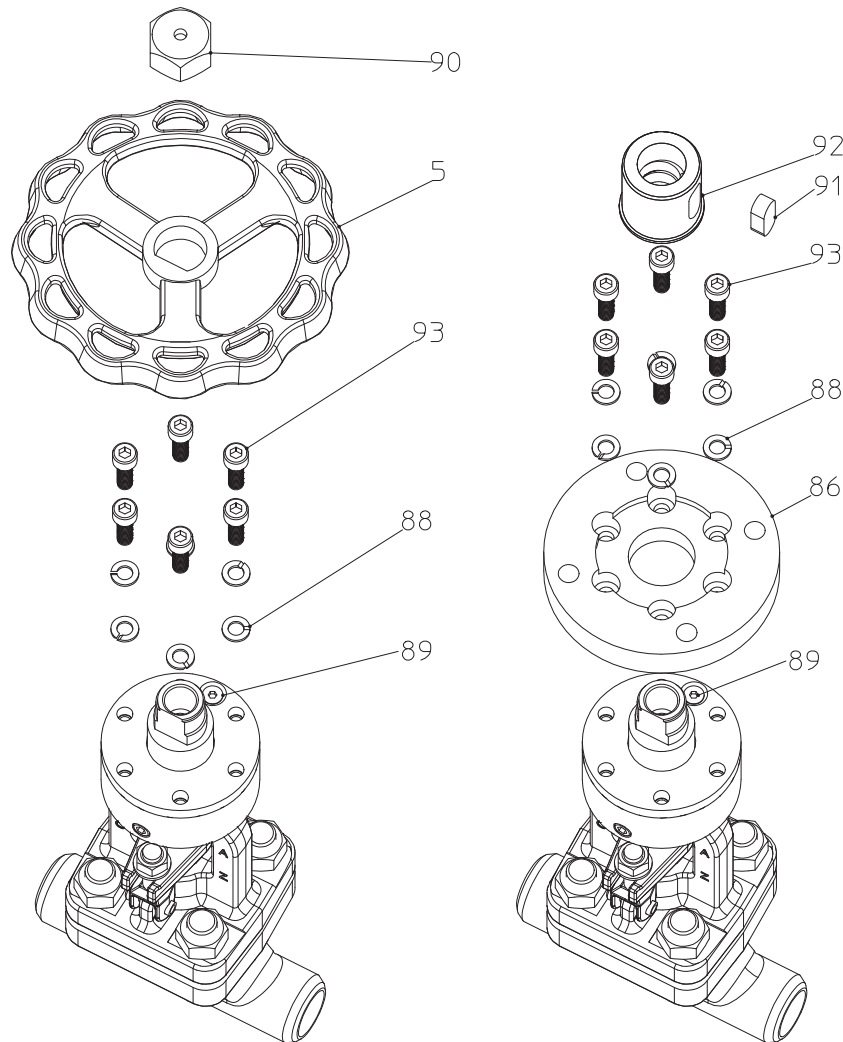

fig. 11: Conversion from version with handwheel to connection F10 acc. to ISO 5210 group (lock bush) B1
- Countersunk screw (pos. 89) in the cover remains bolted to secure.
- F10 flange alignment acc. to the explosion graphic (fig. 11)!
- Loosen guard cap (pos. 90)
- Remove handwheel (pos. 5)
- Loose 6 cylinder screws (pos. 93) and 6 spring rings (pos. 88)
- Align flange F10 (pos. 86) to the 6 holes (refer to fig. 11)
- Tighten the 6 spring rings (pos. 88) and 6 cylinder screws (pos. 93) crosswise
- Mount lock bush B1 (pos. 92)
- Mount parallel key (pos. 91)